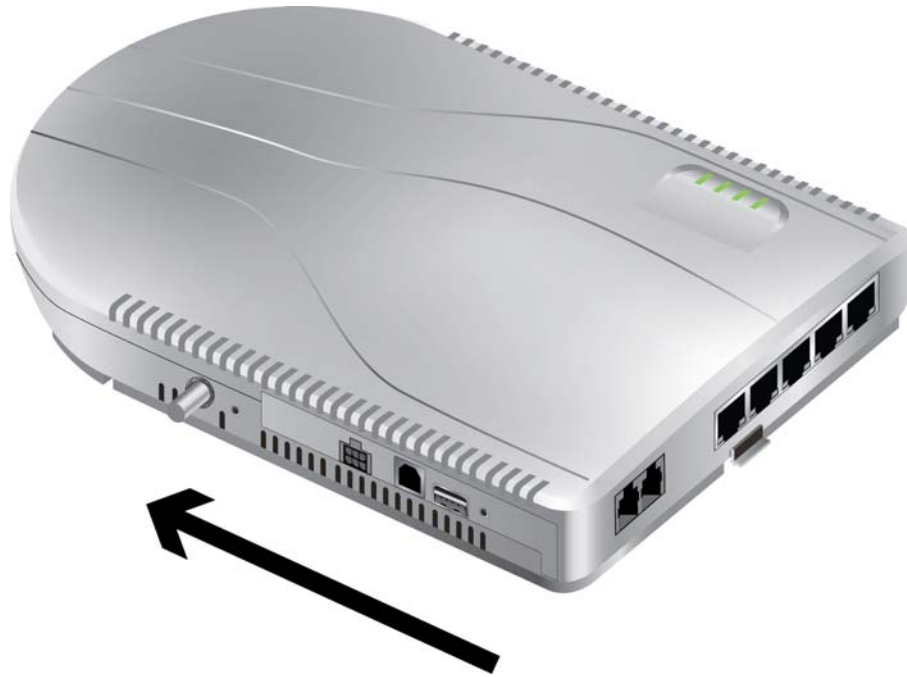

Figure 10: Locking the electronics into place.
8. Slide the electronics unit to lock the electronics to the base. The electronics unit should be completely flush with the base. (Figure 10)